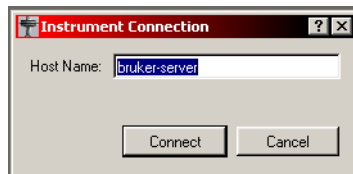

Figure 4.5 - Connection window
3. Click on Connection and a new window will appear (see Figure 4.5). The name of your server should already be filled in.